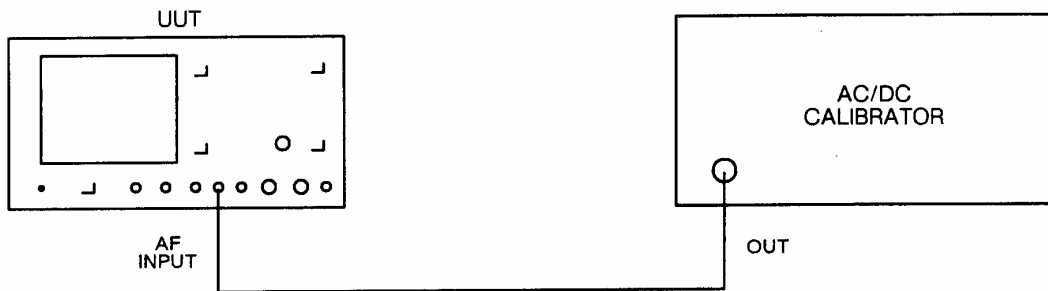

Fig. 5-2-5 Test equipment connections for adjusting R231 on AB5/I
- (1) Connect the equipment as shown in Fig. 5-2-5.
- (2) Set the calibrator to give 5.000 V DC.
- (3) Set the UUT to RX, distortion/SINAD/SN off, DC coupled, 50 kHz low-pass filter.
- (4) Adjust R231 until an AF level of 5.00 V DC is displayed.